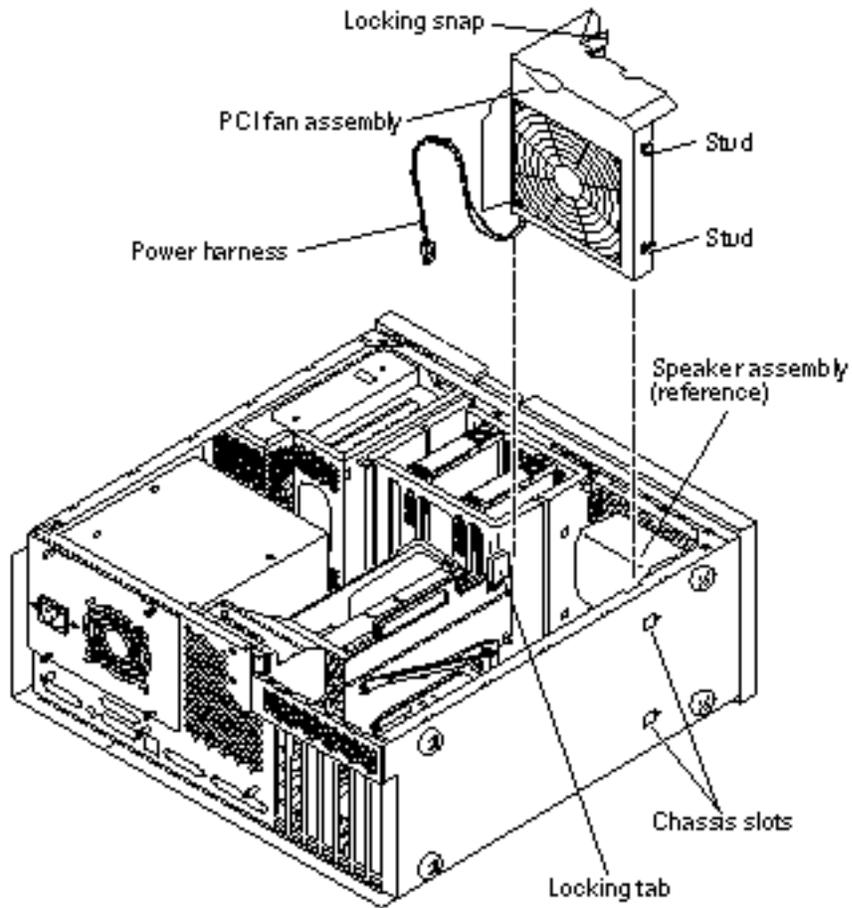

Figure 1-7 Removing and Replacing the PCI Fan Assembly
- 6. Remove the PCI fan assembly (Figure 1-7):**
- 7. Replace the PCI fan assembly (Figure 1-7):**